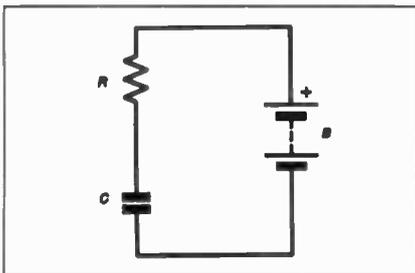
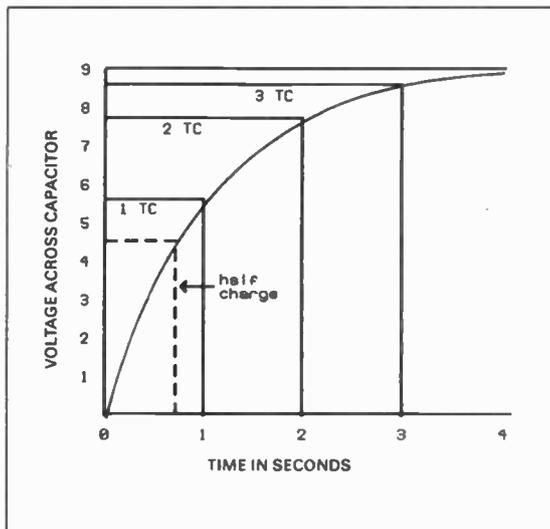

Fig. 1. Charging a capacitor (C) from a battery (B) through a resistor (R).
Fig. 2. Charging graph using a 1µF capacitor through a one megohm resistor from a 9V battery.
When an initially uncharged capacitor (C) charges from a battery (B) through a resistor (R), it takes a certain time to do so – see Fig. 1. The charging pattern obtained when a 1µF capacitor charges through a 1MΩ (megohm) resistor from a 9V battery is shown in Fig. 2.
Note that the voltage across the capacitor is proportional to the charge stored and may therefore be used to represent it. In Fig. 2, when the voltage reaches 4.5V the charge will be 50 per cent of maximum (shown by the dotted lines).
The time taken for the voltage across the capacitor to reach this figure (5.7V on a 9V supply) is called the *time constant* and, in the example, is one second. This is marked "1 TC" in Fig. 2.
The 1µF capacitor charging through a 1MΩ resistor will therefore provide a time constant of one second, which is shown in Fig. 2. There is therefore no need to go to the trouble of taking measurements and drawing a graph to determine the time constant.
per cent, and since there is already 63% of the total charge held by the capacitor, the percentage of supply voltage appearing across the capacitor after two time constants will be 86 per cent. For a 9V supply this corresponds to about 7.7V (marked "2 TC" in Fig. 2).
Meanwhile, the capacitor being measured, C_t , charges through resistor, R1, so the voltage across it rises and follows the form shown in Fig. 2. R1 is selected from a chain of resistors using the rotary Range switch, S1 (inset in Fig. 3).